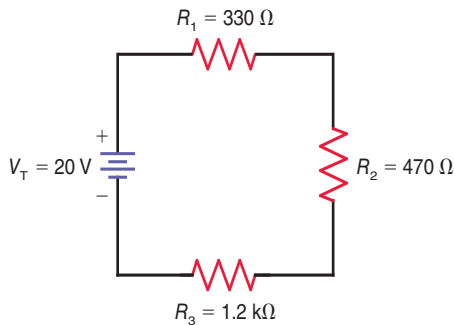

Figure 5-23
- 5.10 In Fig. 5-23, solve for R_T , I , V_1 , V_2 , and V_3 .